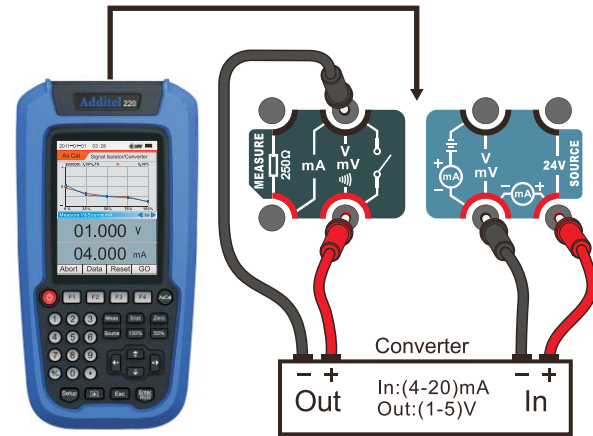

Figure 9.37 Transmitter calibration
4. Use **←** or **→** key to set the isolator / converter automatically single-step time, and connect the test line as shown in Figure 9.37.